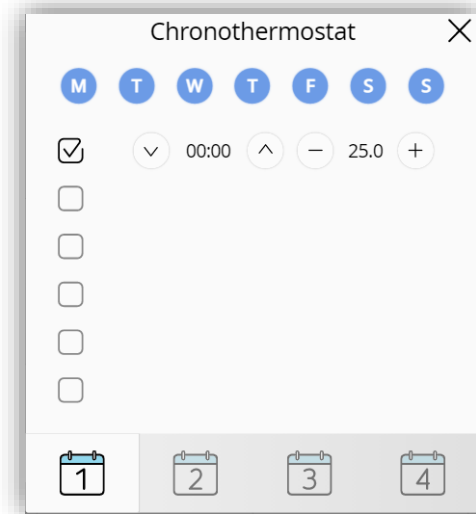

Figure 85. Chronothermostat panel
- **Minimum Setpoint Value** [-99 ... 18 ... 199] [°C]: minimum setpoint value that the user can be set on the chronothermostat panel (see Figure 85).
- **Maximum Setpoint Value** [-99 ... 30 ... 199] [°C]: maximum setpoint value that the user can be set on the chronothermostat panel (see Figure 85).